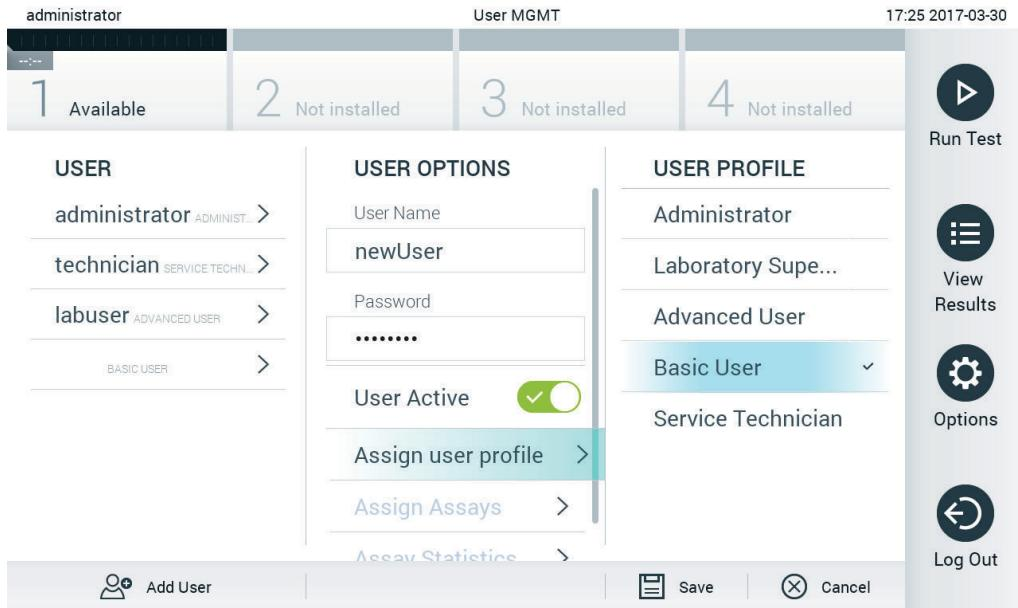

Figure 64. Assigning a user profile to a new user.
4. Press **Assign User Profile** and assign the appropriate user profile (from the list on the right of the content area) to the new user (Figure 64, next page).